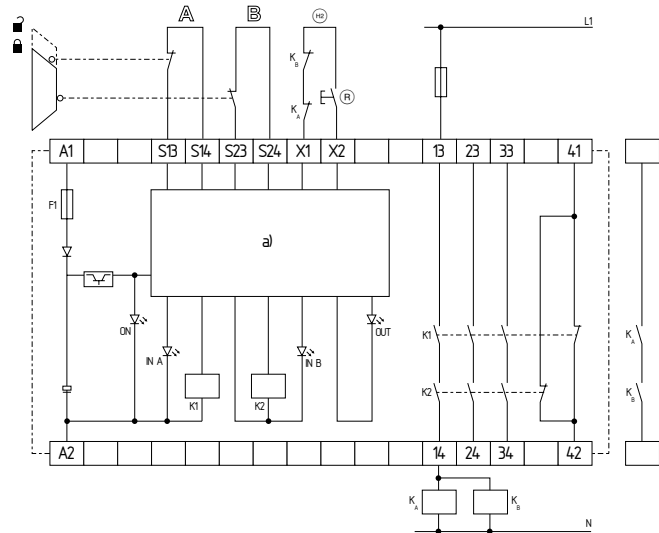

Fig. 2
Dual-channel control, shown for a guard door monitor; with two contacts A and B, where at least one is a positive break contact; with external reset button (R) (see Fig. 2)